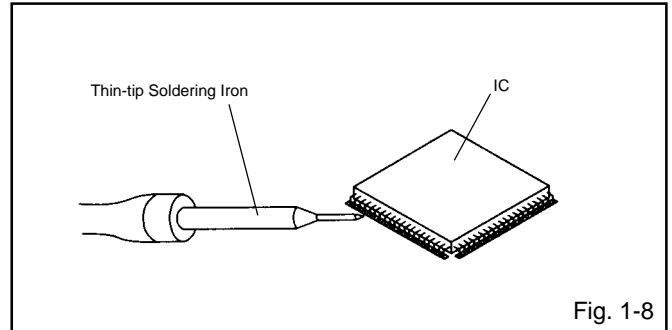

Fig. 1-8
4. When bridge-soldering between terminals and/or the soldering amount are not enough, resolder using a Thin-tip Soldering Iron. (Refer to Fig. 1-8.)